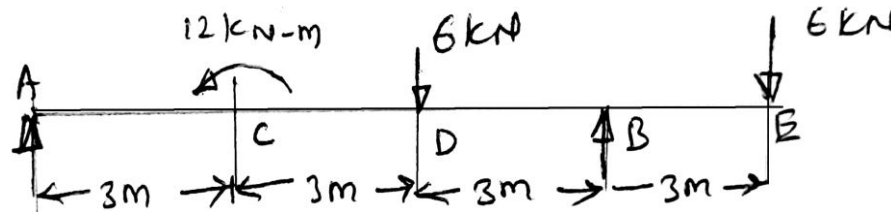

Figure 2
- Q.4 a) For the beam as shown in figure 2 draw BM and SF diagrams indicating principle values 10